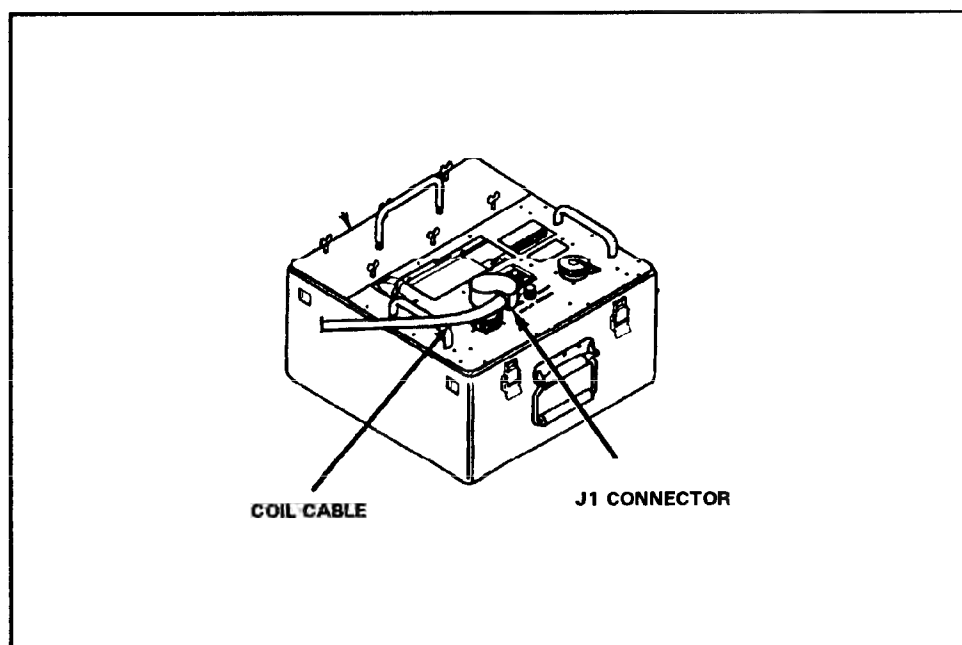

Figure 3-9. Coil cable connector and J1 connector.
f. The gunner connects the coil cable connector by aligning the yellow indexing line on the coil cable connector with the yellow indexing line on the J1 connector on the MGS (Figure 3-9). He turns the nut on the coil cable connector in the direction of the arrow until the red mark (band) on the M 1 connector on the MGS cannot be seen. (Do not apply downward pressure on the coil cable connector. This can cause misalignment and bent pins.)